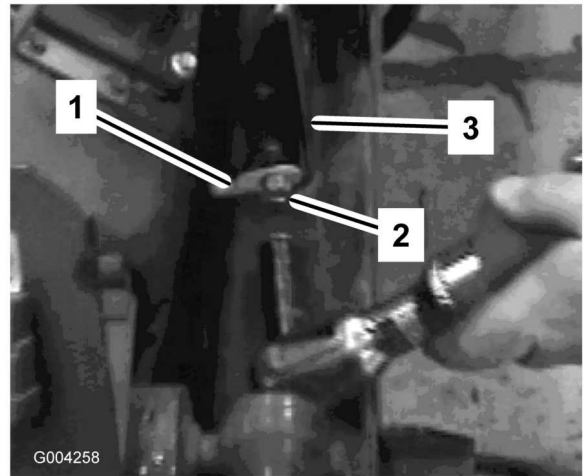

Figure 5
- Locate the negative ground cable bolted to the frame at the base of the shift selector mounting bracket. Remove the bolt and lock washer then disconnect the cable (Figure 5). Retain all fastener(s).